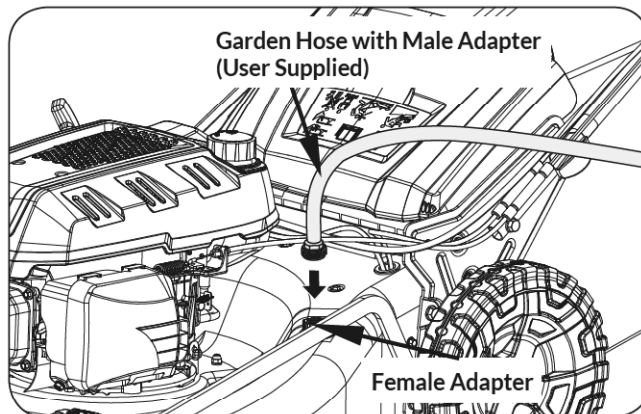

Figure 31
3. Attach the garden hose with a male adapter (user supplied) to the female adapter on your deck's surface. (See **Figure 31**).